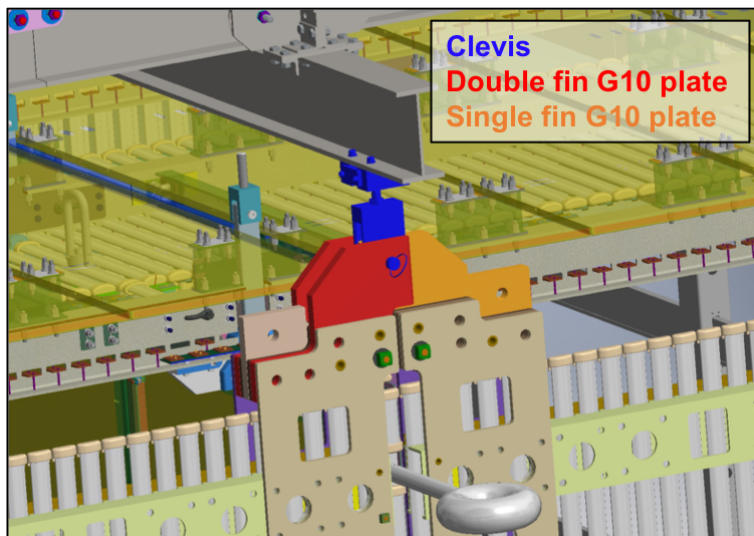

Figure 1: View of the two downstream end walls' connection to the CPA bridge beam clevis.
Once in their final positions, each end wall will be supported from the top at both corners - one on an APA bridge beam and one on the CPA bridge beam. The connections on the CPA bridge beam needs to accommodate two end walls. This is achieved by first attaching one of the end wall's connecting plate inside a bridge beam clevis with a hollow sleeve, and next attaching the other end wall's connecting plates around the clevis with a solid pin. The final arrangement is shown in Figure 1.
The problem is that the installation sequence requires the downstream (DS) beam right (BR) end wall with the double fin plate (red in Figure 1) to be installed before the DS BL end wall with the single fin plate (orange in Figure 1). In this case the solid pin will block the access for the downstream beam left end wall to be connected.